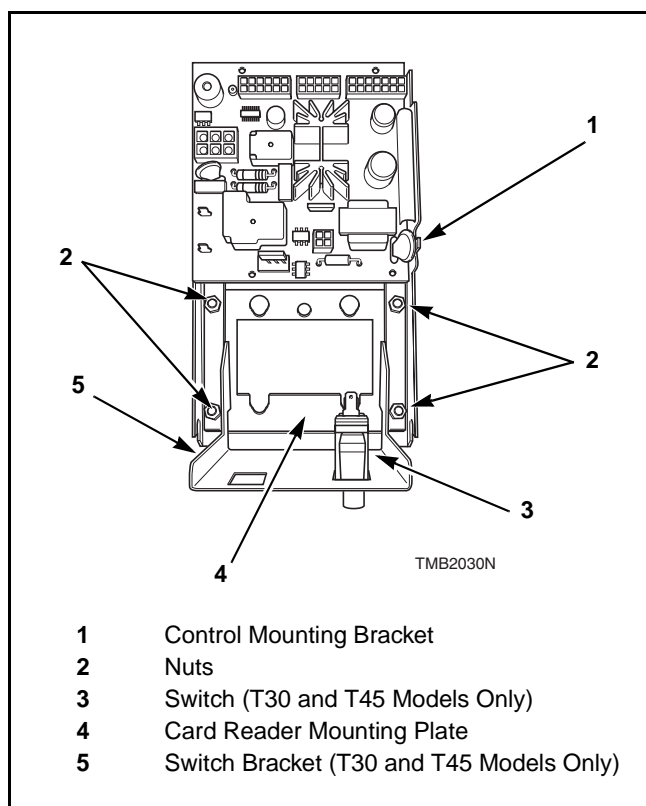

Figure 3
- Remove control assembly from machine. Unscrew four nuts that attach the card reader mounting plate and switch bracket to the control mounting bracket. Refer to *Figure 3*.